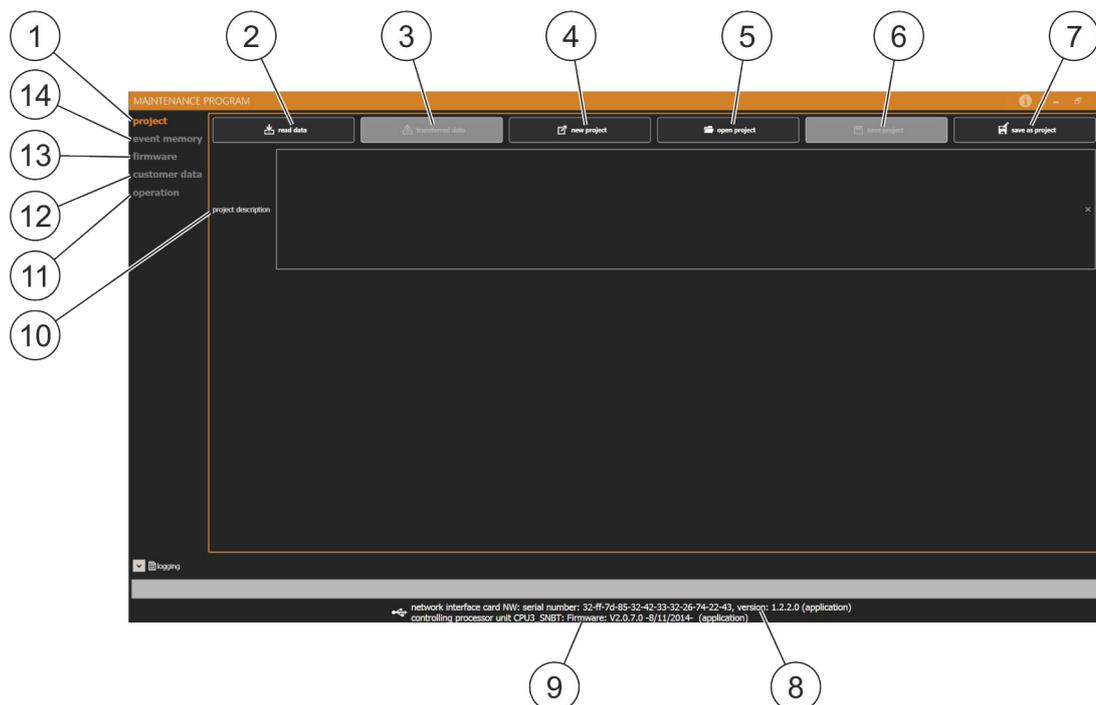

Fig. 72: Maintenance program homepage
- Project (Fig. 72/1) ↪ Chapter 10.3 "Project" on page 90
- Read data (Fig. 72/2) (gray background, if no system is connected)
- Transfer data (Fig. 72/3) (gray background, if no data has been imported yet)
- New project (Fig. 72/4)
- Open project (Fig. 72/5)
- Save project (Fig. 72/6) (gray background, if no project was opened previously)
- Save project as (Fig. 72/7)
- Event memory (Fig. 72/14) ↪ Chapter 10.4 "Event memory" on page 90
- Firmware (Fig. 72/13) ↪ Chapter 10.5 "Firmware" on page 90
- Customer data (Fig. 72/12) ↪ Chapter 10.6 "Customer data" on page 91
- Operation (Fig. 72/11) ↪ Chapter 10.7 "Operation" on page 93
- Network Interface Card serial number, Network Interface Card version number (Fig. 72/8)
- Firmware version (Fig. 72/9)
- The project can be described in the project description (Fig. 72/10). This description is saved with the project via "Save project as" or via "Save project" with the data on the **PC**. The project description is not transferred to the system (EFD III) and it is not saved in the system. The project description is not available after the data has been exported from a system.